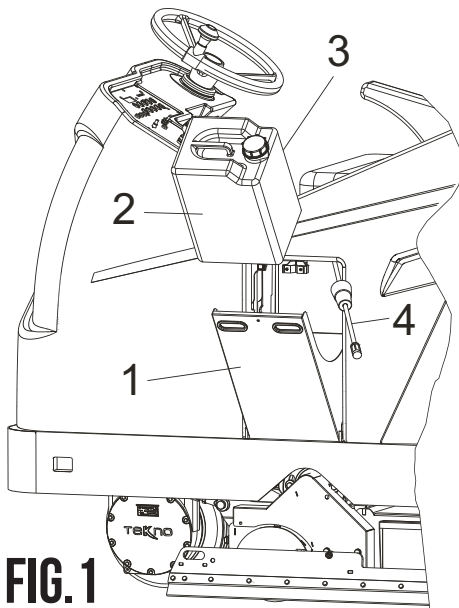
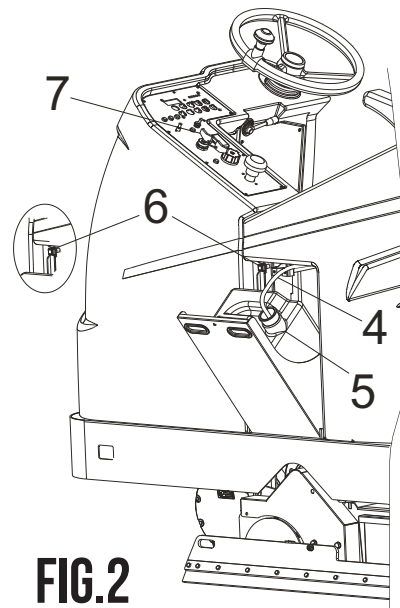

FIG. 1
FIG. 2
- Open the compartment pos.1;
- Take out the pipe pos.4 so it does not hinder can fitting;
- Fit the can pos.2 as indicated in FIG.1. While performing this operation, do not remove the cap pos.3 of the can to prevent detergent coming out. Use low-foam liquid detergents or use a foam reducing product. Do not use inflammable liquids. For the percentages of detergent to be used and for safety precautions to be taken, see the instructions on the pack.
- Once the can has been fitted, remove the cap pos.3 and insert the pipe pos.4, making sure the filter reaches the bottom to suction up all the detergent in the can;
- Block the pipe pos.4 by means of the cone pos.5 inserting it in the can with a slight pressure (FIG. 2).